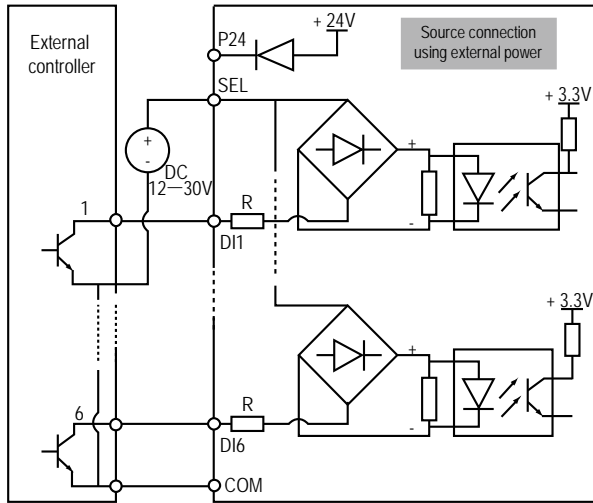

Figure 4-15 Source input signal connection when using external power
1. If the external power supply is used, the source connection is as shown in Figure 4-15. (Note that the SEL and the P24 are not short-circuited)